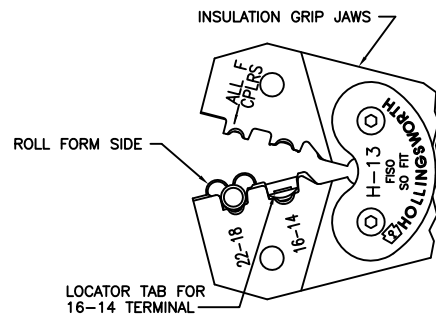

FIGURE 1
2. Insert a disconnect by holding the tool horizontally, with the locator on the far side. Slide the roll form portion of the SO FIT onto the locator tab opposite the proper nest. Orientation of the disconnect is important to ensure a good attachment (See Figure 1).